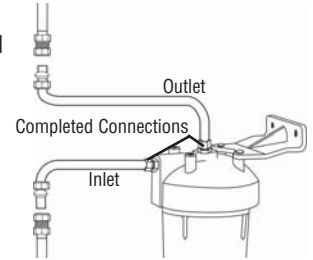

Figure 9
9. Connect both pieces of tubing to filter and water tube as shown with compression fittings. Do not overtighten nuts. (Figure 9)